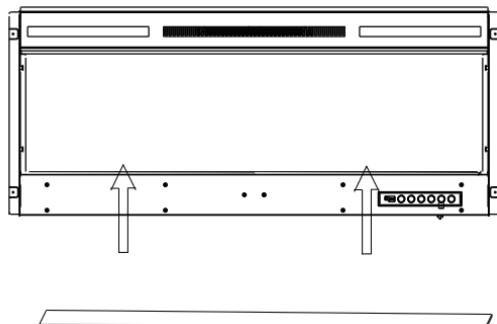

Figure 2
Place the plastic tray(I) to the fireplace designed place. Then carefully place crystal or pebbles embers into the bottom tray on the front of the appliance as illustrated. Apply an even layer from side to side. Figure 2, Figure 3.